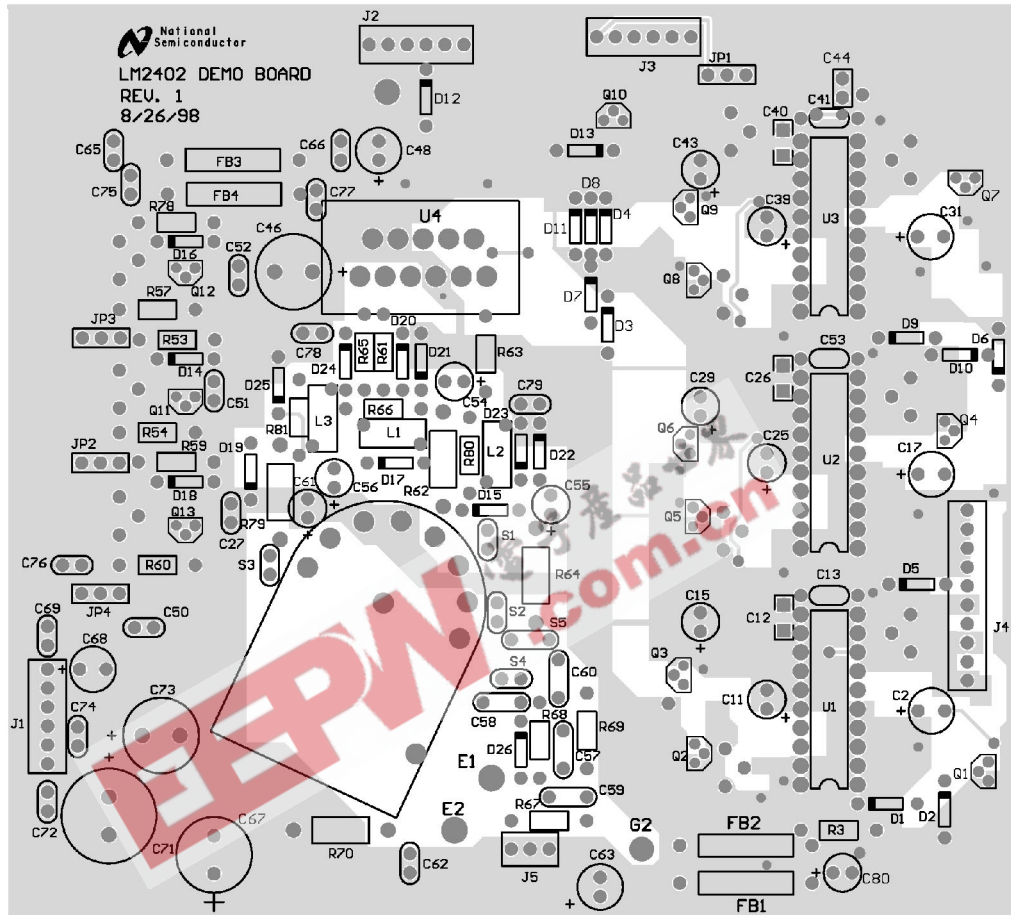

FIGURE 11. PCB Top Layer
Figures 11, 12 show routing and component placement on the NSC LM2202/2402 demonstration board. The schematic of the board is shown in *Figure 10*. This board provides a good example of a layout that can be used as a guide for future layouts. Note the location of the following components:
- C46 and C77 - V_{CC} bypass capacitors, near LM2402 and V_{CC} clamp diodes. Very important for arc protection. (*Figure 11*)